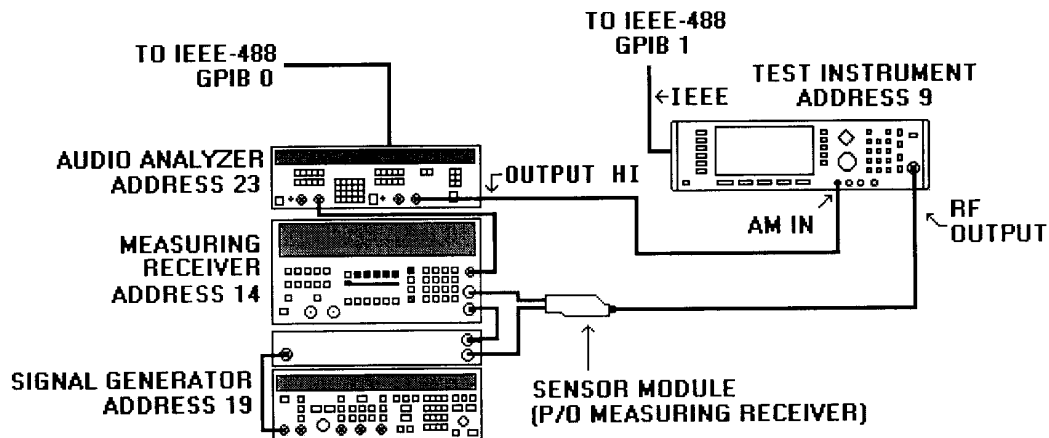

Figure 4. Amplitude modulation hookup.
- (1) Connect equipment as shown in figure 4.
- (2) Set audio analyzer controls as listed in (a) through (d) below.